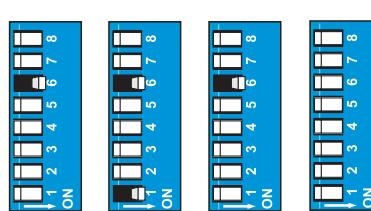

Fig. 4.1.3
2. Place dip-switch 6 and then dip-switch 1 in their **ON** positions, as shown in Fig. 4.1.3.